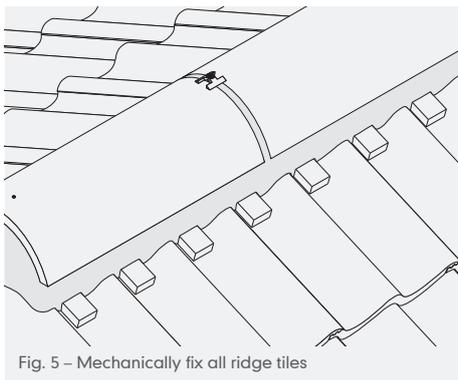

Fig. 5 – Mechanically fix all ridge tiles
- 5 To mechanically fix the ridge tiles push a plastic ridge clamp centrally between the ridge tiles into the wet mortar and secure in place by driving the 75mm stainless steel screw provided into the ridge batten. Do not over tighten (Fig. 5). When using clay ridge with interlocking